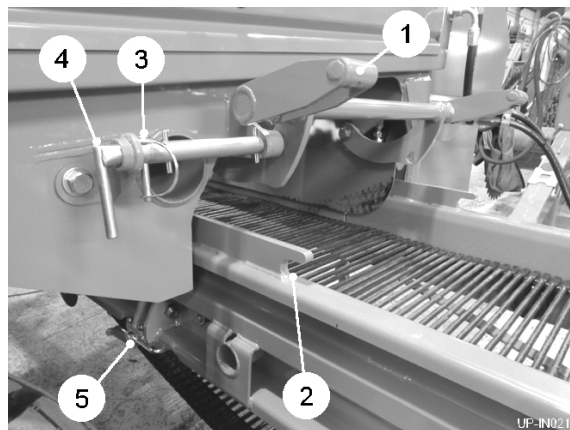

Fig 15
2. Once horizontal, disengage the latch arm (item 1, fig 15) from the hook plate (item 2, fig 15).
3. Raise the latch arm (item 1, fig 15) clear of the conveyor as shown.
4. Remove the linchpin (item 3, fig 15) and slide the support pin (item 4, fig 15) into the hole in the latch arm. Refit the linchpin.
5. Finally, lock the conveyor with the bottom catches (item 5, fig 15).
1. Unlock the conveyor bottom catches (item 5, fig 15).
2. Remove the linchpin (item 3, fig 15) and slide the support pin (item 4, fig 15) out to release the latch arm (item 1, fig 15). Refit the linchpin.
*Always refit the linchpin to hold the support pin (item 4, fig 15) away from the latch arm (item 1, fig 15). Failure to do this could result in serious damage to the conveyor when folding.*
3. Lower the latch arm (item 1, fig 15) onto the conveyor.
4. Using the two external switches, move the cross conveyor to engage the latch arm (item 1, fig 15) into the hook plate (item 2, fig 15).
5. Finally, carefully raise the conveyor until in full contact with the rubber stop (item 6, fig 15).